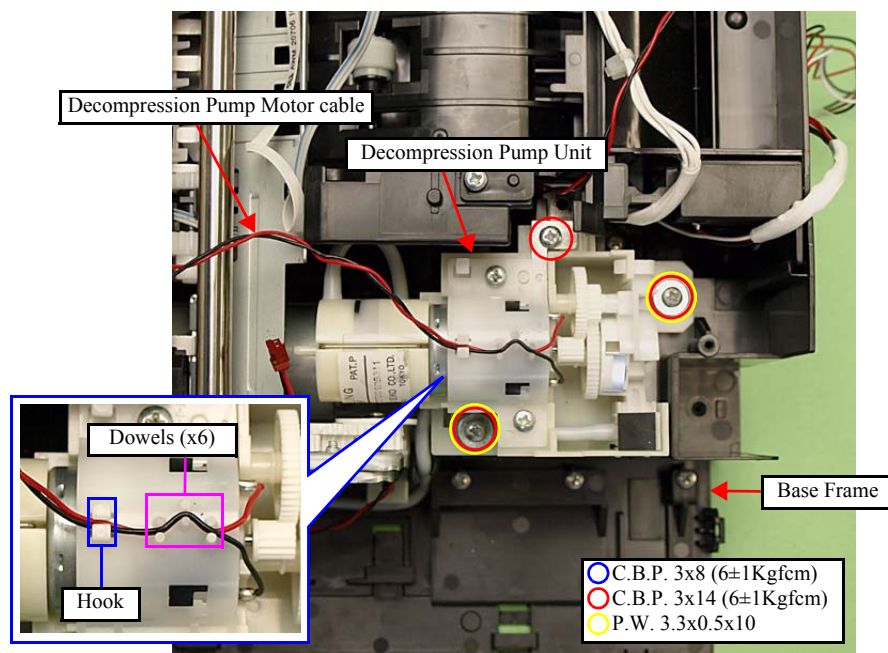

Figure 4-72. Removing the Decompression Pump Unit
- When routing the Decompression Pump Motor cable, make sure to secure it with the dowels (x6) and the hook on top of the Decompression Pump Unit as shown in Fig. 4-72.